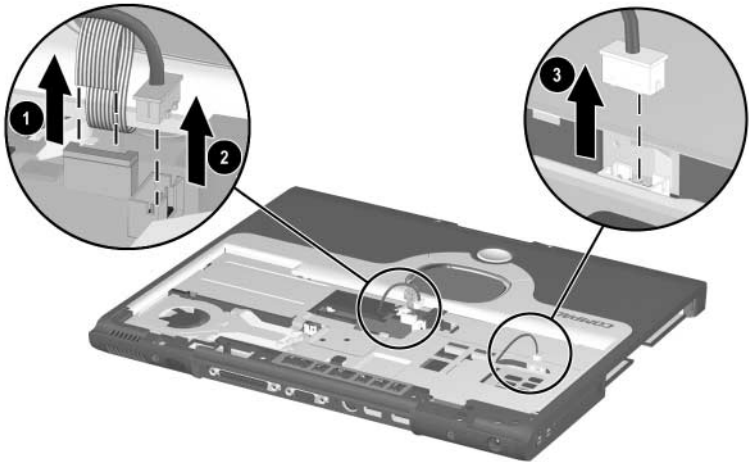

Figure 5-22. Disconnecting the Drive Activity Light/Battery Power Light, TouchPad, and Speaker Cables
6. Disconnect the drive activity light and battery power light cable from the system board ❶ (Figure 5-22).
7. Release the ZIF connector ❷ to which the TouchPad cable is connected and disconnect the TouchPad cable ❸ from the system board.
8. Disconnect the speaker cable ❹ from the system board.